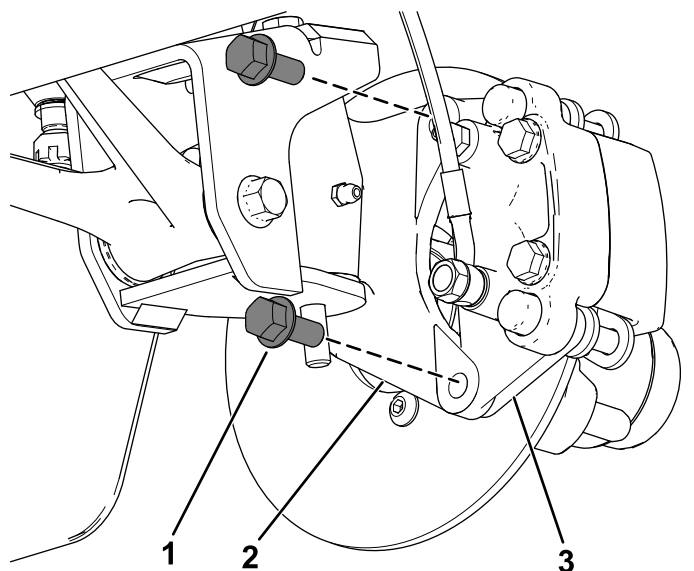

Figure 36
3. Remove the flange-head bolts (3/8 x 3/4 inch) that secure the bracket for the brake assembly to the spindle and separate the brake from the spindle (Figure 36).
2. Align the brake pads to either side of the rotor (Figure 36) and the holes in the caliper bracket with the holes in the brake mount of the spindle frame (Figure 40).
3. Secure the caliper bracket to the spindle frame (Figure 36) using the 2 flange-head bolts (3/8 x 3/4 inch).